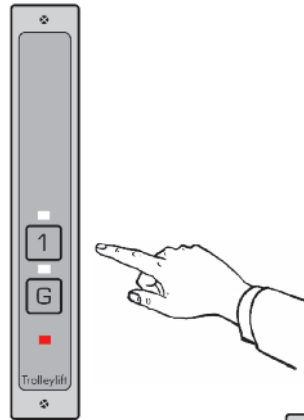

Fig. 15
- Press the appropriate button to send the lift to the desired floor (Fig. 15). (For push button control instructions, please see p5).